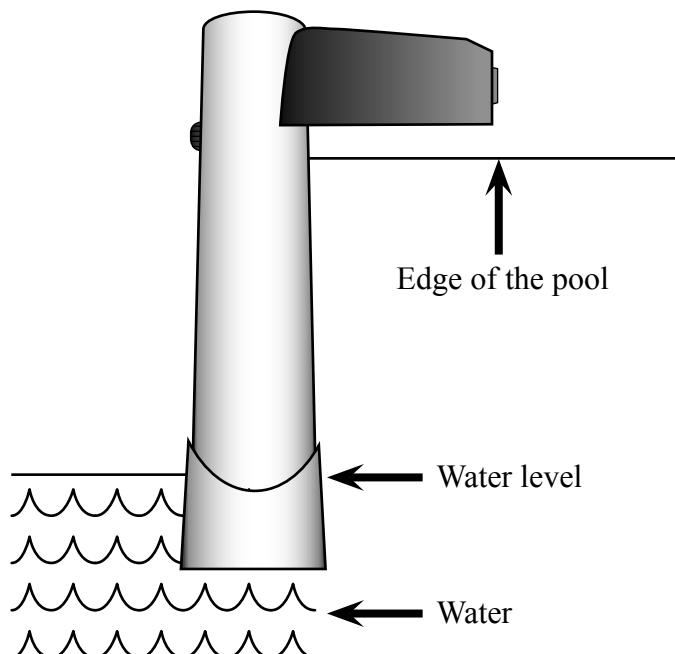

Figure 8
8. To ensure proper operation of the alarm, the water level in the pool has to be set and kept constant. The sensor tube should reach 8 – 5 cm into the water. If the water level rises much higher or lower, the alarm will become much less effective. Always keep the correct water level. Never block or close the air opening on the back side of the sensor opening (see Figure 8).